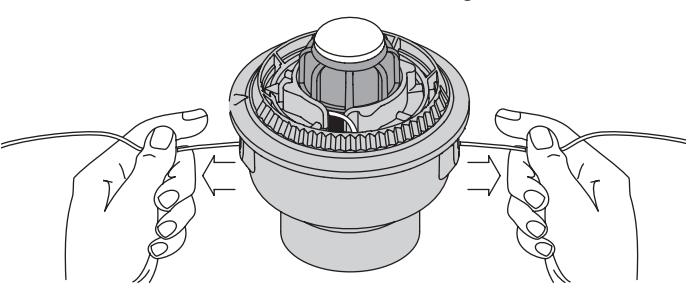

Fig. 22
9. If winding the line becomes difficult or if the line jams, pull the ends of the line from the spool (Fig. 22). Continue winding the inner reel counterclockwise.
If the SpeedSpool® does not release line correctly, pull the ends of the line firmly from the spool (Fig. 22). If this does not release line, follow the *Cleaning the SpeedSpool®* instructions.